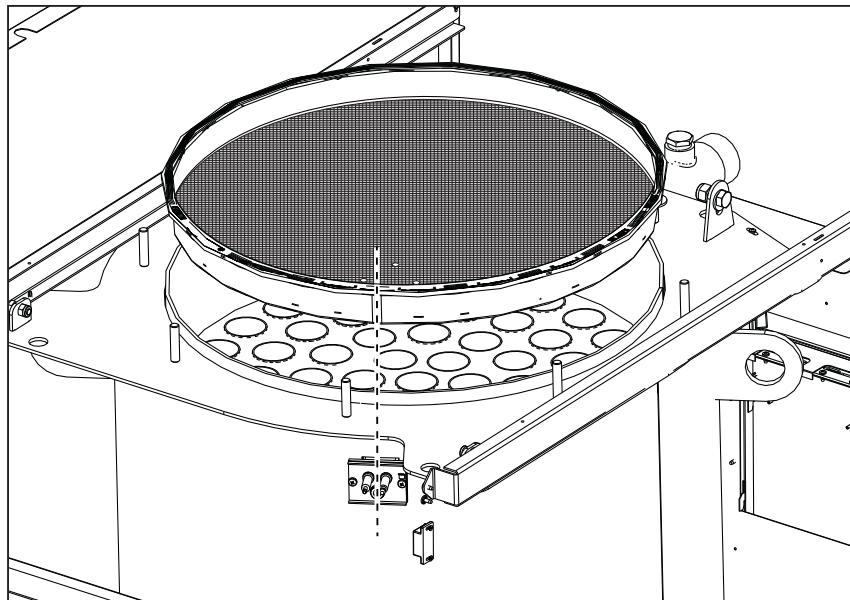

fig. 67 - Alignment of the burner
- IMPORTANT:** after cleaning the burner, be sure to position it by aligning the flange joint weld with the center of the peephole hole (see fig. 67).